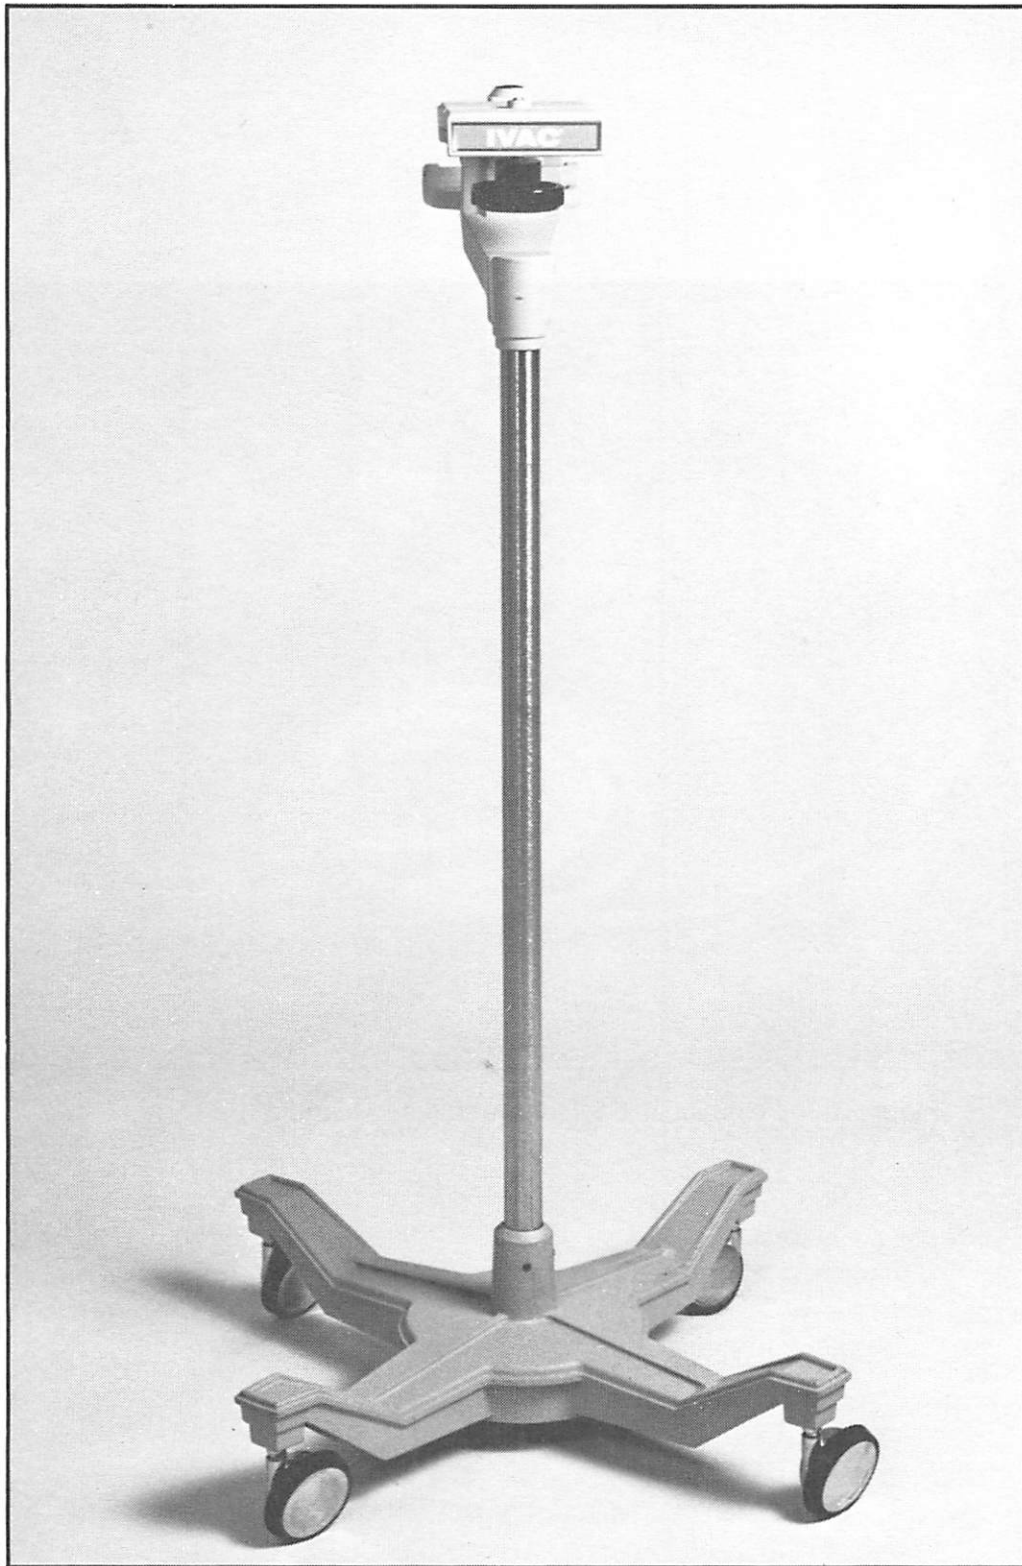

Figure 1-10. Vital Sign Instrument Stand -- Model 1020VS
- o. IVAC Vital Sign Instrument Stand - Model 1020VS (figure 1-10). Designed to accommodate the VITAL•CHECK monitor, this stand has a low center of gravity and rolling casters for easy maneuverability from one area to another.